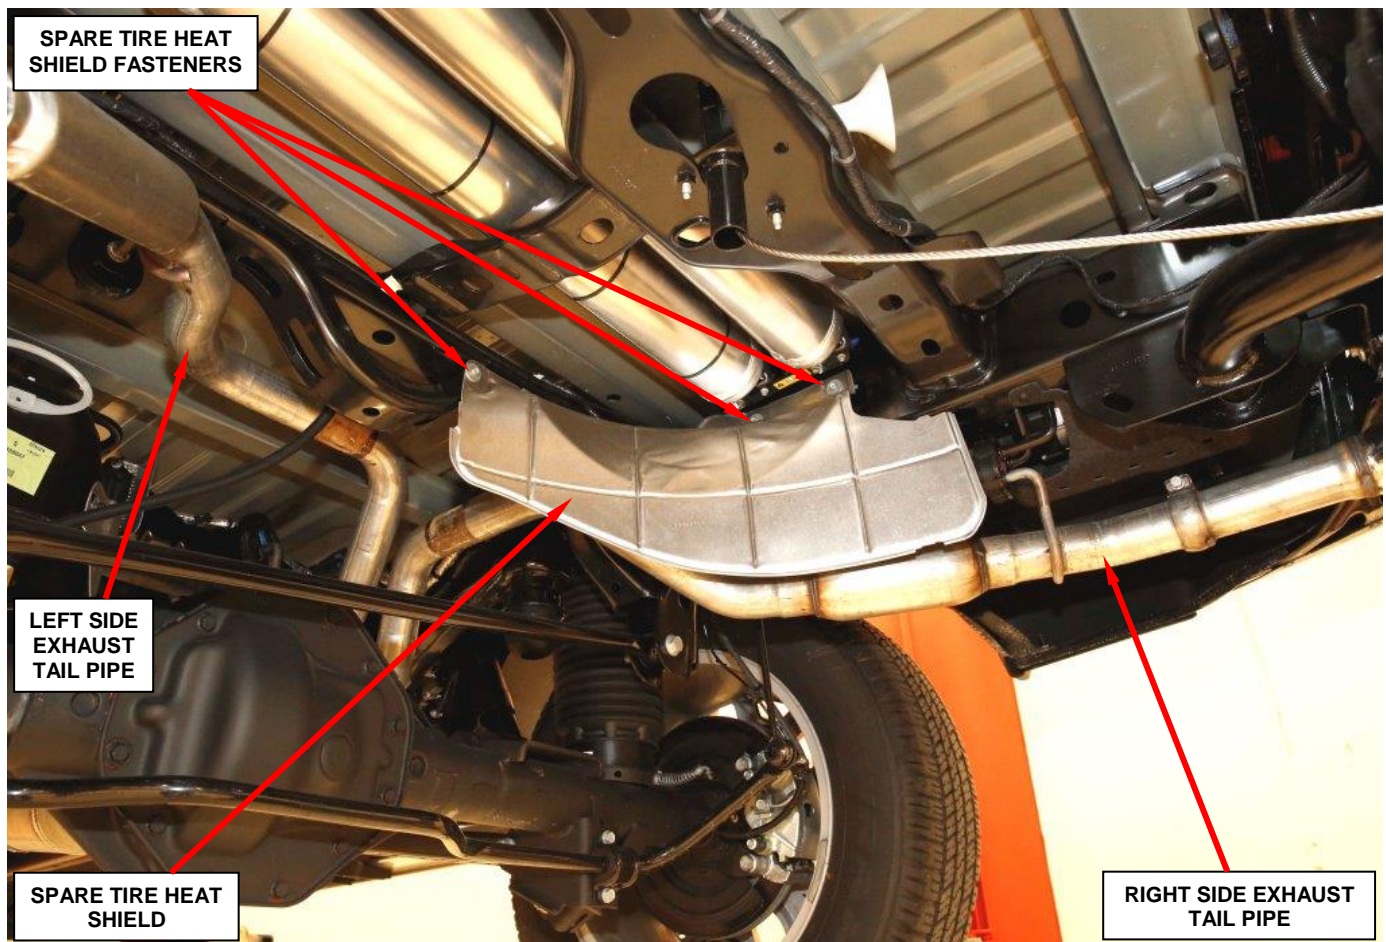

Figure 6 – Properly Installed Spare Tire Heat Shield
7. Place the new heat shield into position (Figure 6).
8. Install the three mounting screws and tighten them to 70 in. lbs. (8 N·m) (Figure 6).